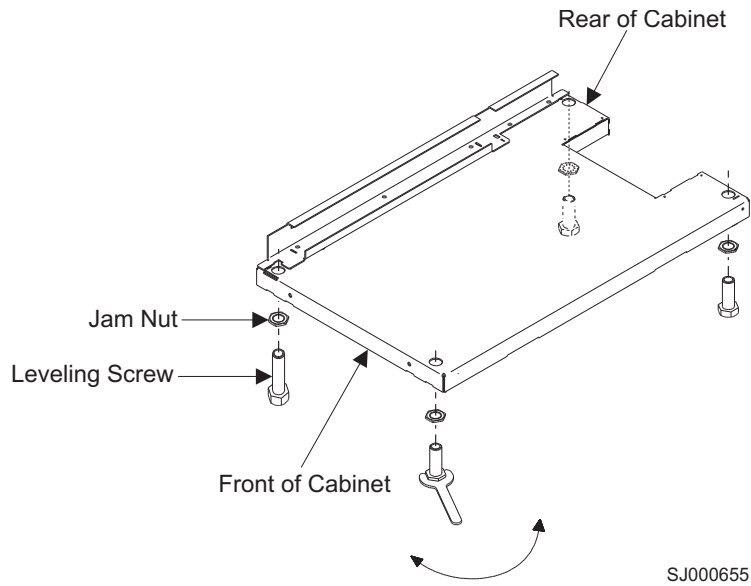

Figure 84. Adjusting the leveling feet
1. Loosen the jam nut on each leveling foot by turning the nut counterclockwise, away from the bottom of the rack. See Figure 84 on page 207.